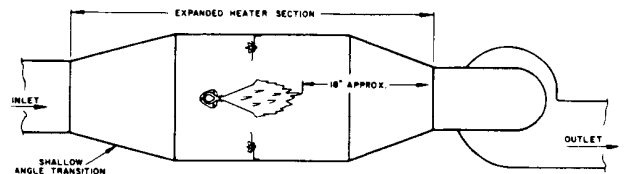

FIGURE 3 Installation in Duct
□ The profile plate can be omitted in duct installations where the duct dimensions are such that the proper flame to wall clearances can be maintained and air velocities will fall into the proper range. However, where the duct is undersized and optimum velocities would be exceeded, an expanded heater section should be built. It should be made large enough so that an adjustable profile plate can be installed. See Figure 3.